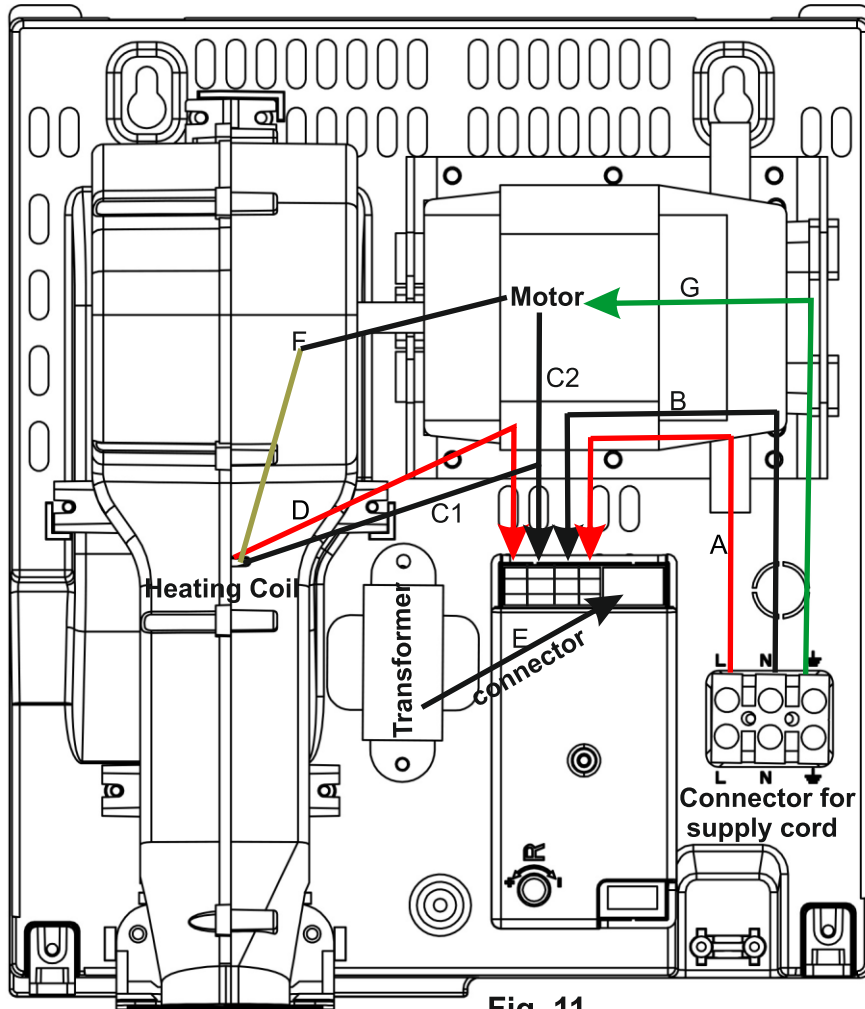

Fig. 11
- 6) Fit the wires removed earlier in same positions and plug in the transformer and sensor connectors (Refer Fig. 11). Fit the screws removed earlier to fit the PCB and PCB box lid.